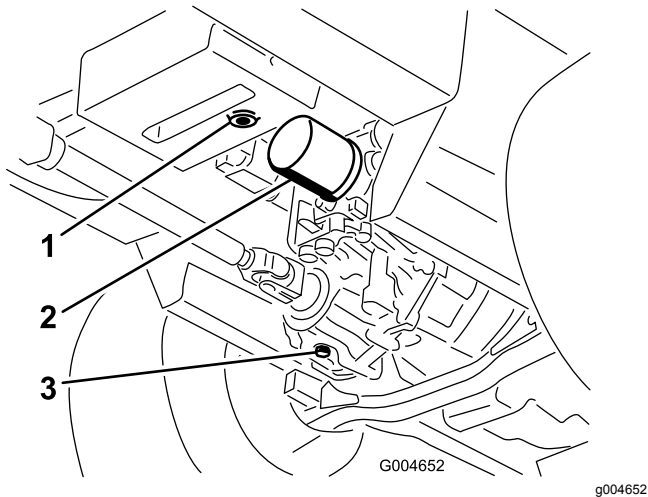

Figure 86
3. Place a large pan under the hydraulic reservoir and transmission case and remove the plugs, draining all of the hydraulic fluid (Figure 86).
4. Clean the area around the hydraulic fluid filter and remove the filter (Figure 86).